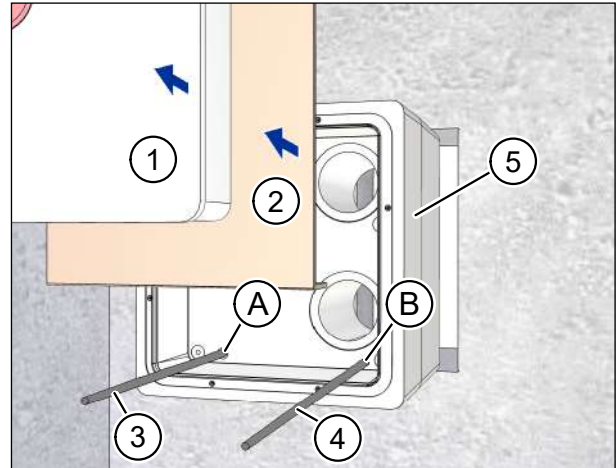

Fig. 13: Inserting the wall box
- ▶ Remove the plaster cover (item 1 in Fig. 13) from the wall box (item 5 in Fig. 13).
- ▶ Remove the cardboard insert (item 2 in Fig. 13) from the wall box (item 5 in Fig. 13).
- ▶ Thread the mains cable (item 3 in Fig. 13) through the cable inlet A (item A in Fig. 13) in the wall box.
- ▶ If necessary, use a screwdriver to punch through the sealed cable inlet B (item B in Fig. 13).
- ▶ Thread the control cable, if required (item 4 in Fig. 13) through the cable inlet B (item B in Fig. 13) in the wall box.
- ▶ Push the wall box (item 5 in Fig. 13) fully into the wall breakthrough.